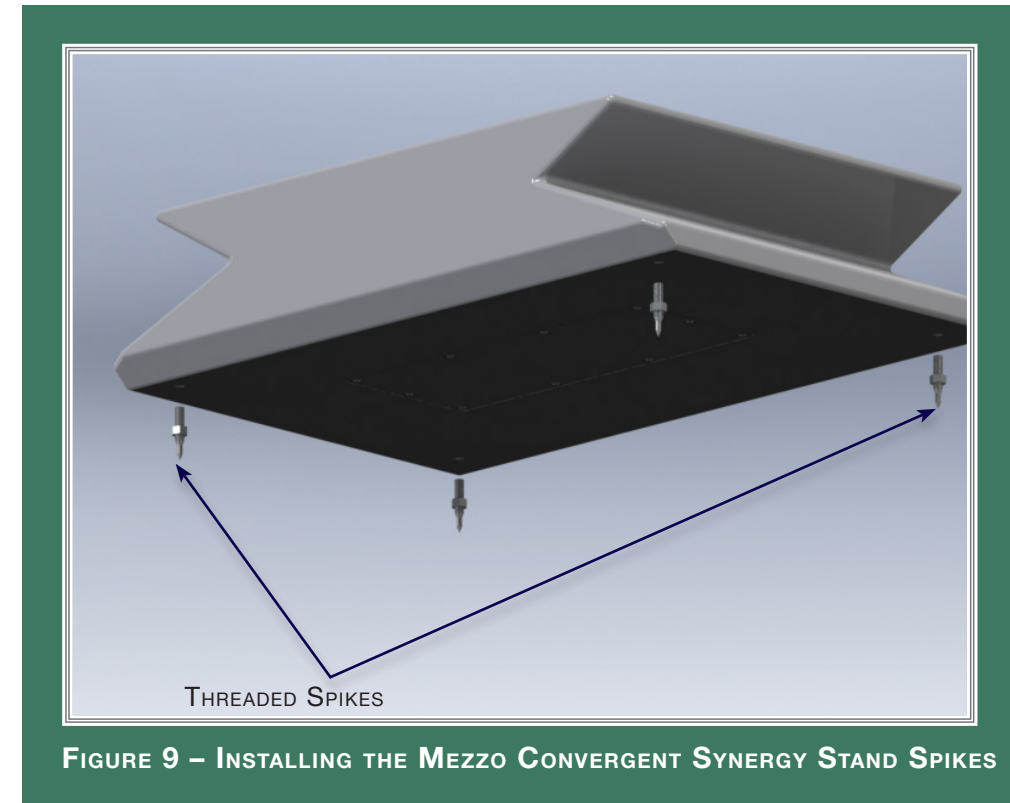

FIGURE 9 – INSTALLING THE MEZZO CONVERGENT SYNERGY STAND SPIKES
3. Install the spikes as shown in Figure 9 above.
(See Figure 9).